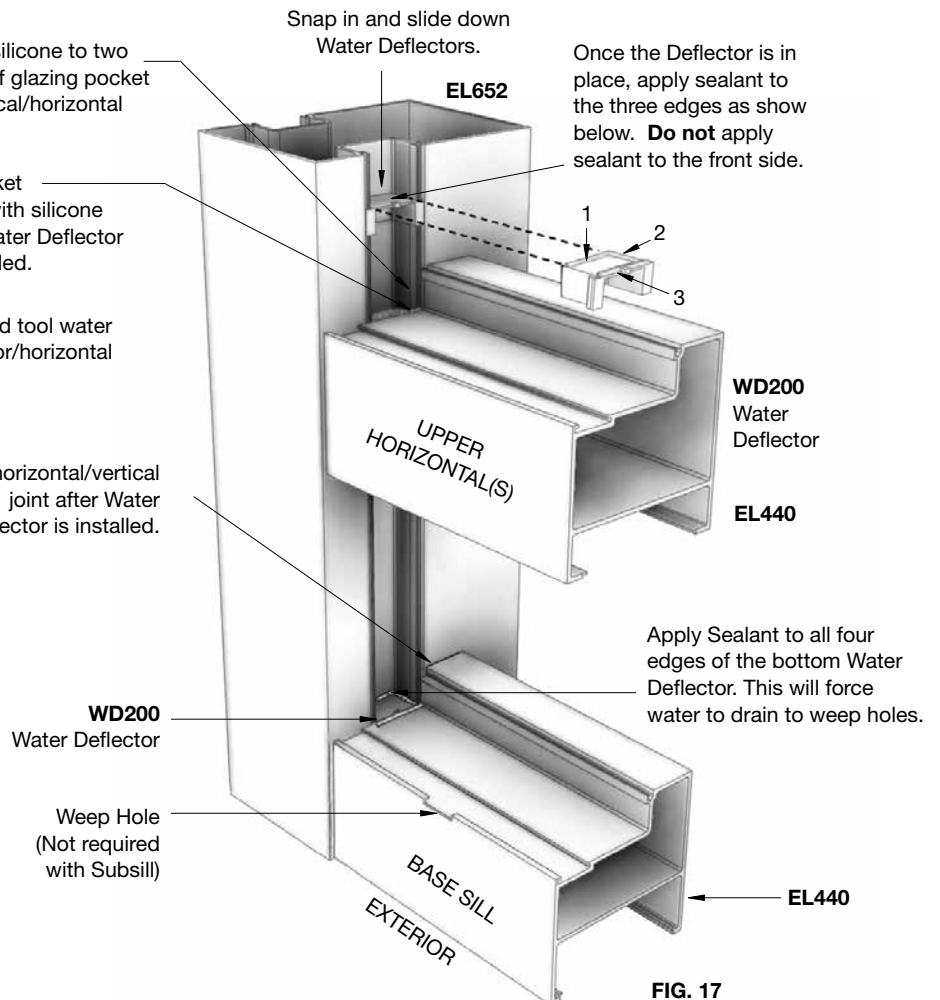

FIG. 17
6. Seal the bottom Deflector on all sides (FIG. 17).